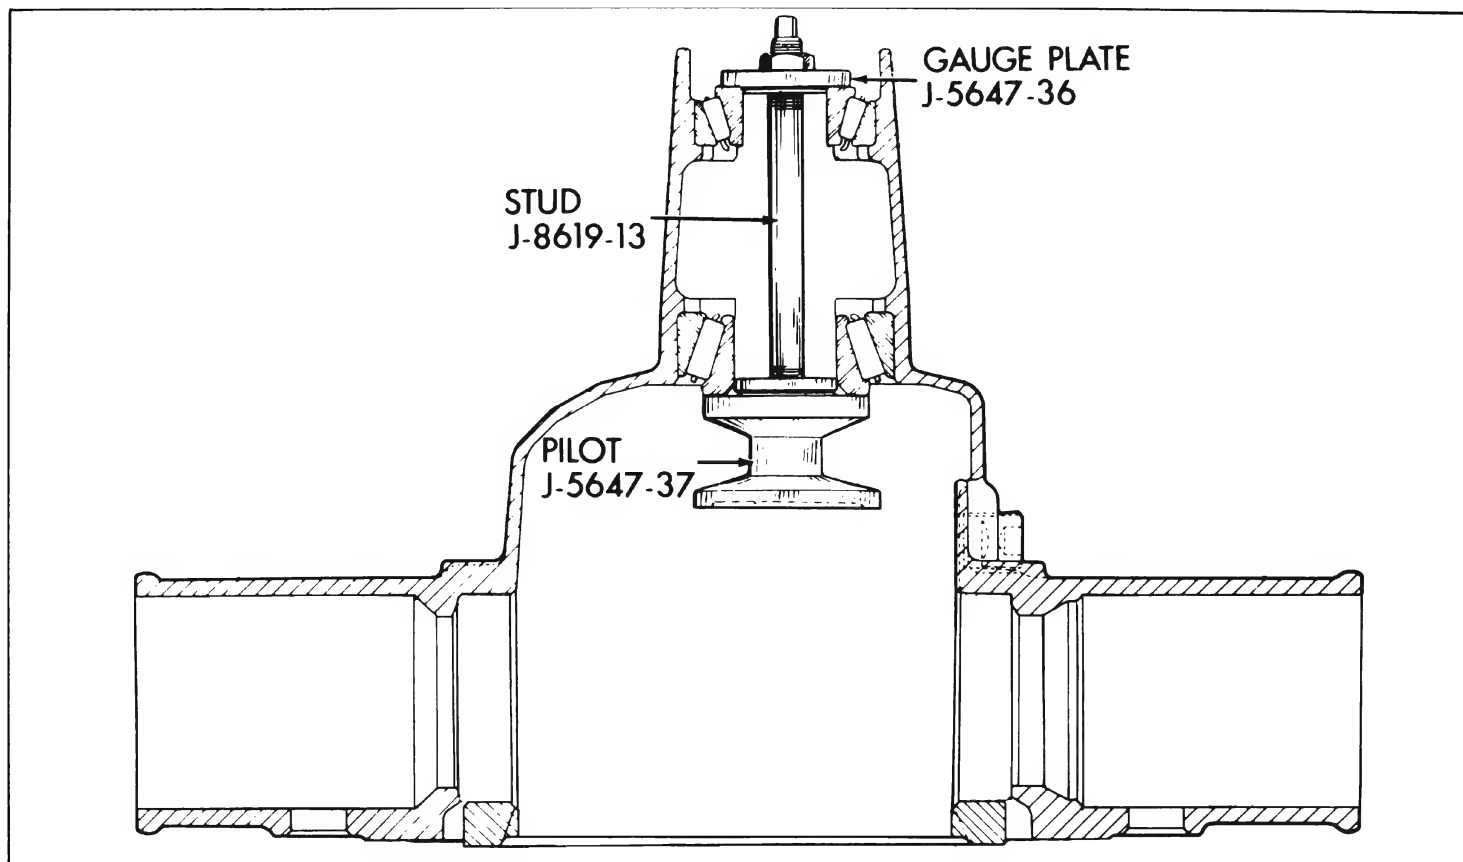

Figure 6-23—Installing Gauge Plate in Carrier
6. Lubricate front and rear pinion bearings which will be used in final reassembly, and position them in their respective races in the carrier. With bearings held in place in races, install Gauge Plate J-5647-36 on rear pinion bearing inner race, and place Pilot J-5647-37 on front pinion bearing with small diameter inside bearing race. Insert Stud J-8619-13 through pilot, and thread it into the gauge plate. See Figure 6-23.